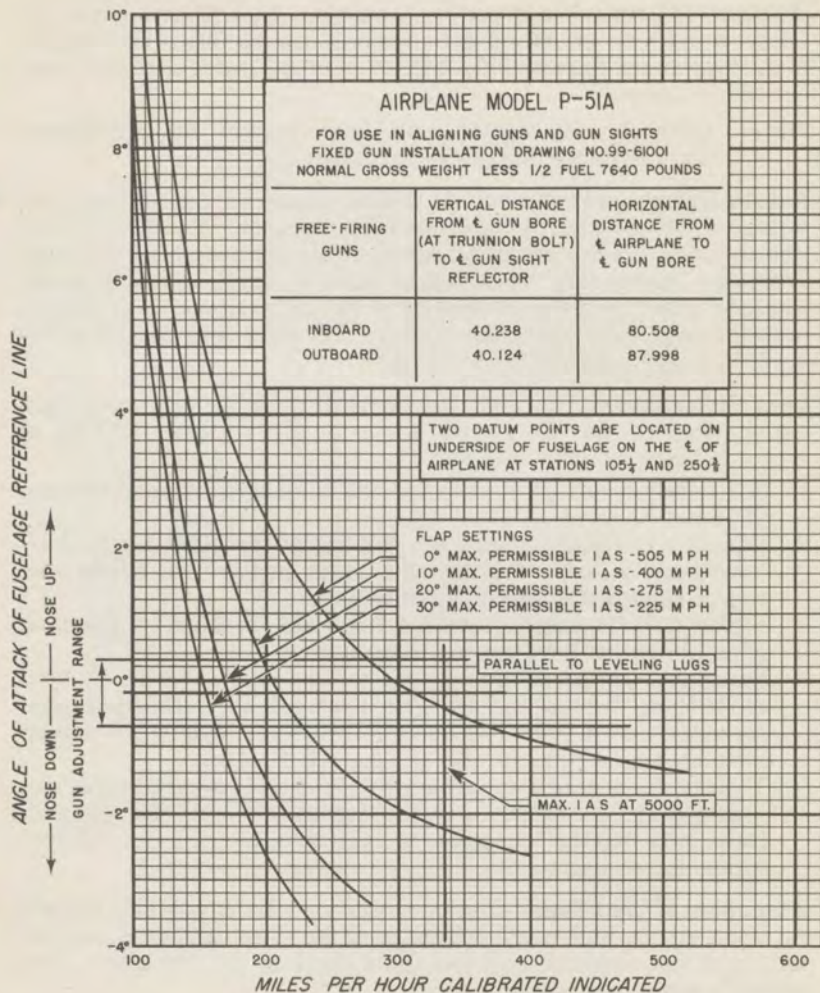

Fig. 44 GUN SIGHTING CHART
**General** The bore sighting operation consists of several adjustments which must be made in sequence. The airplane must first be aligned so that its centerline is perpendicular to a target board or to a vertical wall upon which marks can be made for bore sighting, and then leveled laterally and positioned in flight attitude. The optical and auxiliary gun sights must then be adjusted for alignment with the flight path of the airplane, and the guns adjusted or bore sighted to align with the gun sight. The Gun Sighting Chart in the Manual (Figure 44) or the chart provided in the map case in the cockpit may be used in determining the flight attitude (angle of attack of the fuselage reference line) for a predetermined speed of the airplane. The Bore Sighting Chart gives the horizontal and vertical dimensions necessary for gun sight, gun, and gun camera adjustments. Leveling lugs are located aft of the cockpit on the upper longerons.
Referring to the Gun Sighting Chart (see Figure 44), determine the angle of attack required. Raise or lower the tail until the correct angle, as indicated by a protractor level, is obtained.